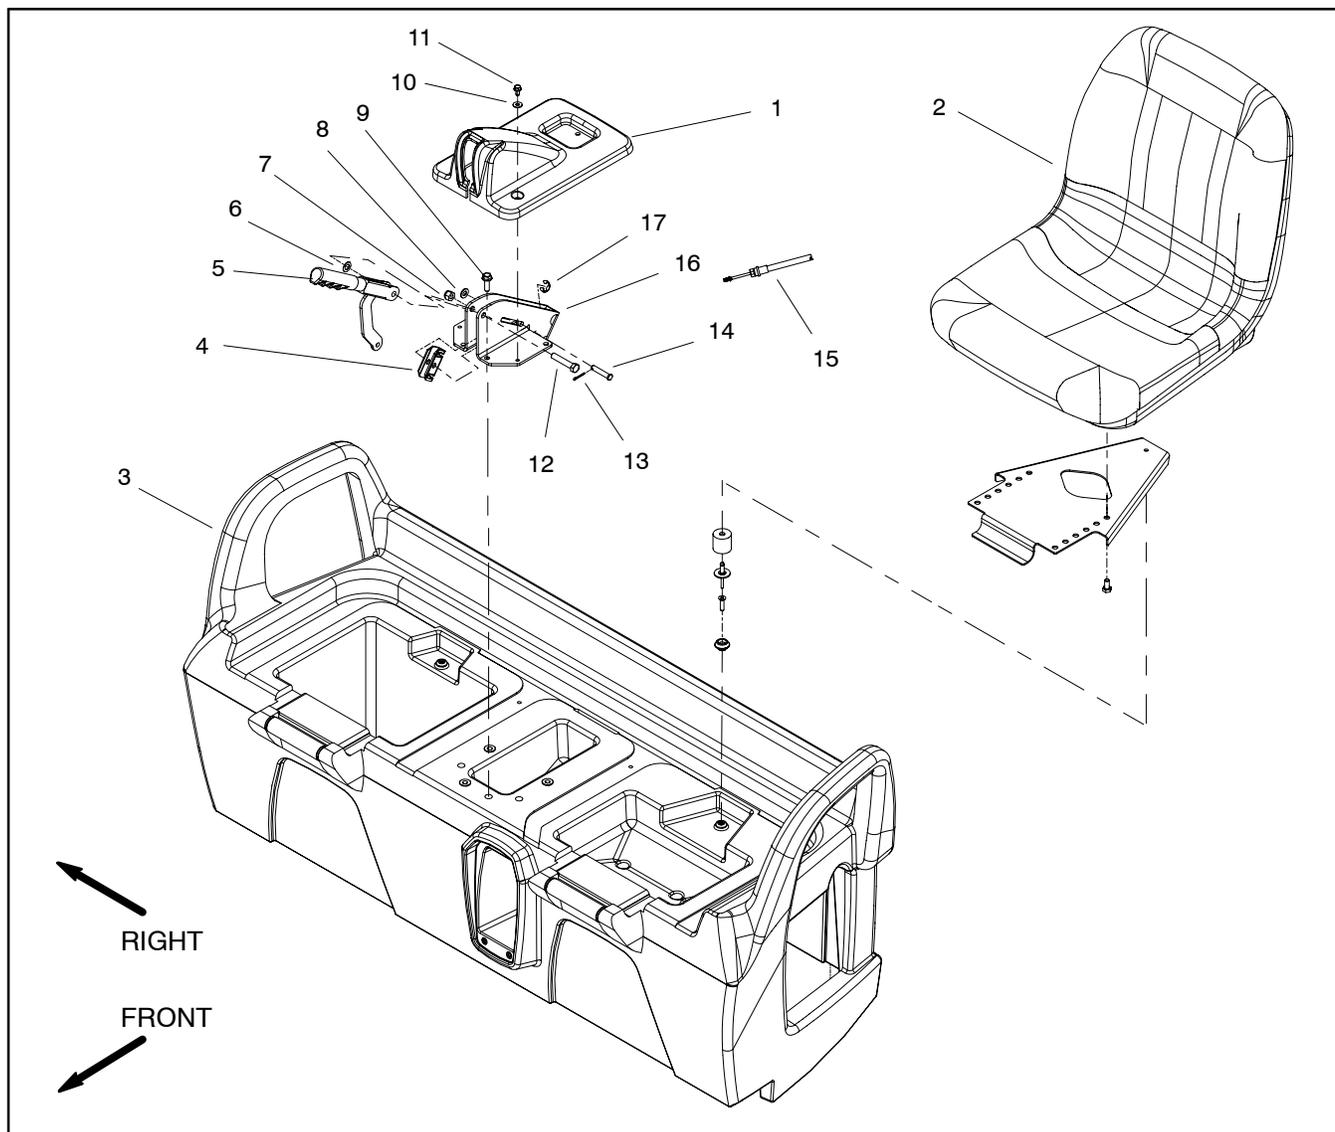

Figure 10
### Disassembly (Fig. 10)
5. Remove four (4) flange head screws that secure parking brake support to seat base.
7. Remove brake cables from parking brake support and cable equalizer bracket using Figure 10 as a guide.
### Assembly (Fig. 10)
1. Secure brake cables to parking brake support and cable equalizer bracket using Figure 10 as a guide.
3. Secure parking brake support to seat base with four (4) flange head screws.